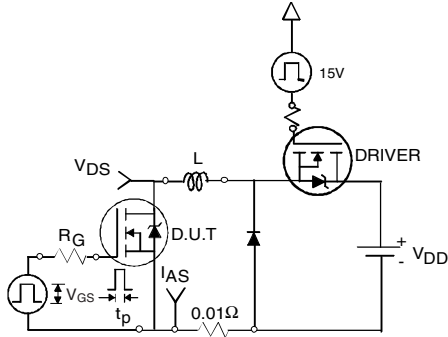

Fig 12a. Unclamped Inductive Test Circuit
- ③ I_{SD} ≤ 75A, di/dt ≤ 220A/μs, V_{DD} ≤ V_{(BR)DSS}, T_J ≤ 175°C
- ④ Pulse width ≤ 1.0ms; duty cycle ≤ 2%.
- ⑤ C_{OSS eff.} is a fixed capacitance that gives the same charging time as C_{OSS} while V_{DS} is rising from 0 to 80% V_{DSS}.
- ⑥ Limited by T_{Jmax}, see Fig.12a, 12b, 15, 16 for typical repetitive avalanche performance.
- ⑦ This value determined from sample failure population. 100% tested to this value in production.
3. Equation below based on circuit and waveforms shown in Figures 12a, 12b.